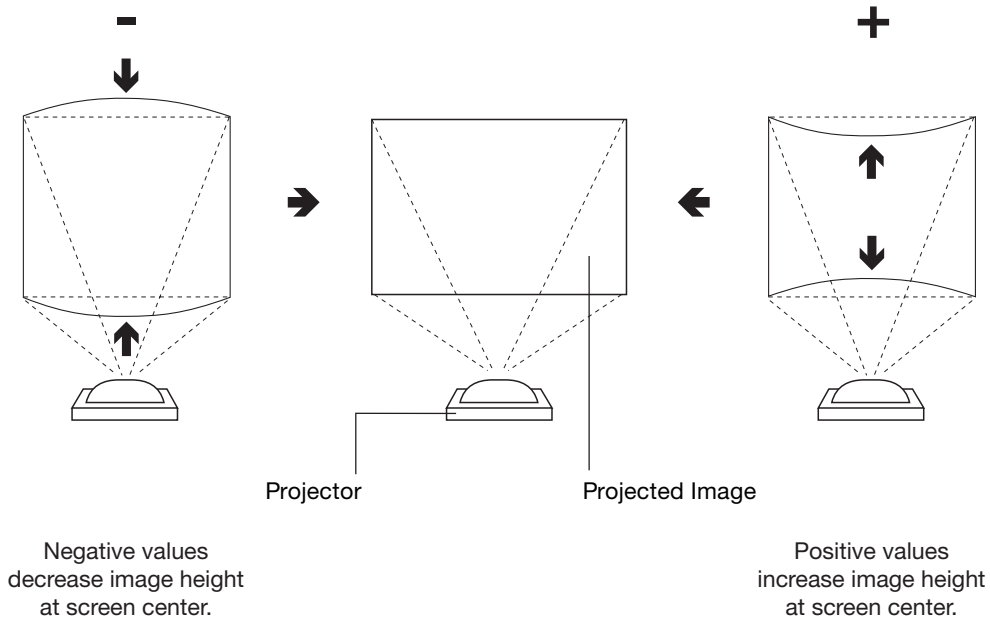

Figure 4-7. Pincushion Correction
- **Pincushion:** “Pincushion” distortion can sometimes occur if the throw distance is very short and/or the projector is equipped with an anamorphic lens (refer to **Installing and Adjusting the CineWide Anamorphic Lens** in Section 3). To correct it, select Pincushion from the GeoCorrection menu and use the ◀ or ▶ button to make the image rectangular. See Figure 4-7.